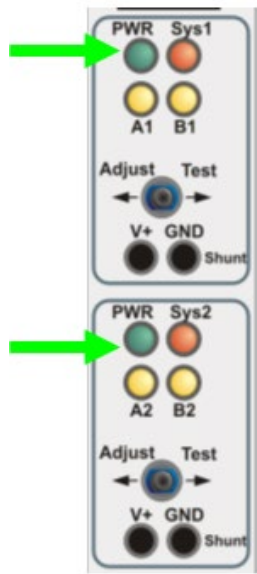
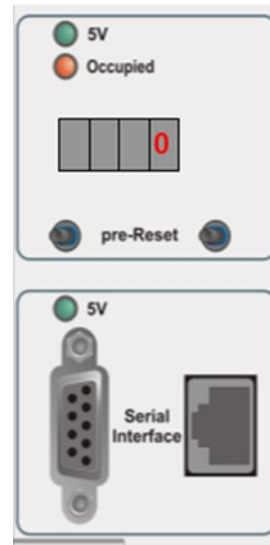

Figure 9 – IMC Board
Figure 10 – ACB Board
- 4.4 Check the LED indications SYS1 and B1 are illuminated (Figure 9) and the ACB display shows <00> (Figure 13). Whilst testing the NDO, BS1/BS3 ACB shows an error code and BS2/BS4 shows as per Figure 10.